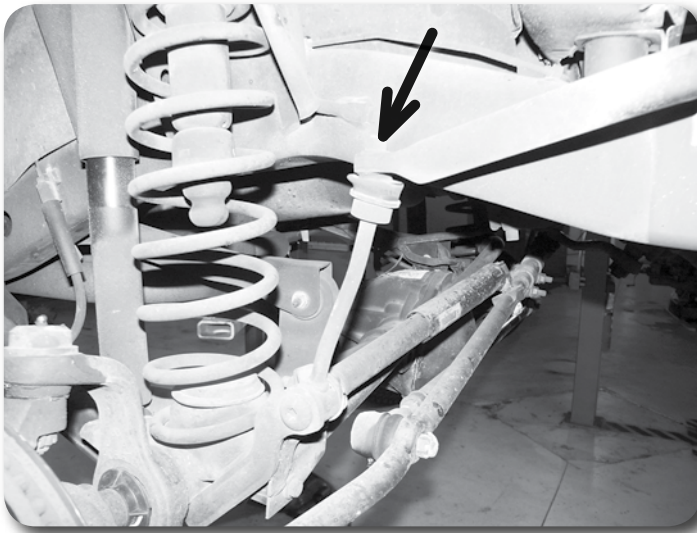

Figure 3
8. Remove the upper mounting nut from the sway bar links (Figure 3). Disconnect the links from the sway bar with a pickle fork to release the tapered seat.